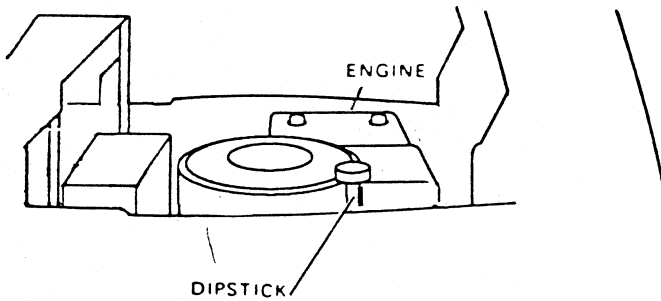

FIGURE 6
- Fill fuel tank (Fig. 6). Use fresh, clean, regular unleaded automotive gasoline. (Use of leaded gasoline will increase carbon and lead oxide deposits and reduce valve life). Capacity is 3.5 gallons.